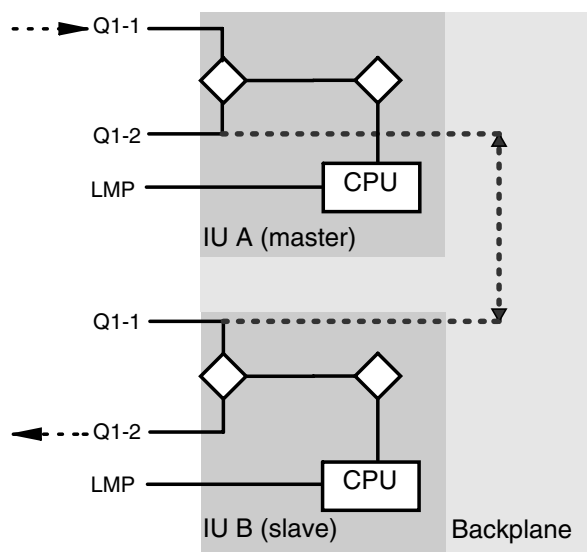

Figure 33. Q1 connection in FIU 19 (E) in 1+1 protection setup
When FIU 19 (E) is used in 1+1 (2IU/2OU) protected mode, the Q1 interfaces are physically connected via the backplane (Figure 33). In a chaining setup, the Q1 cabling is connected to the Q1-1 port of the indoor unit A and Q1-2 port of the indoor unit B.